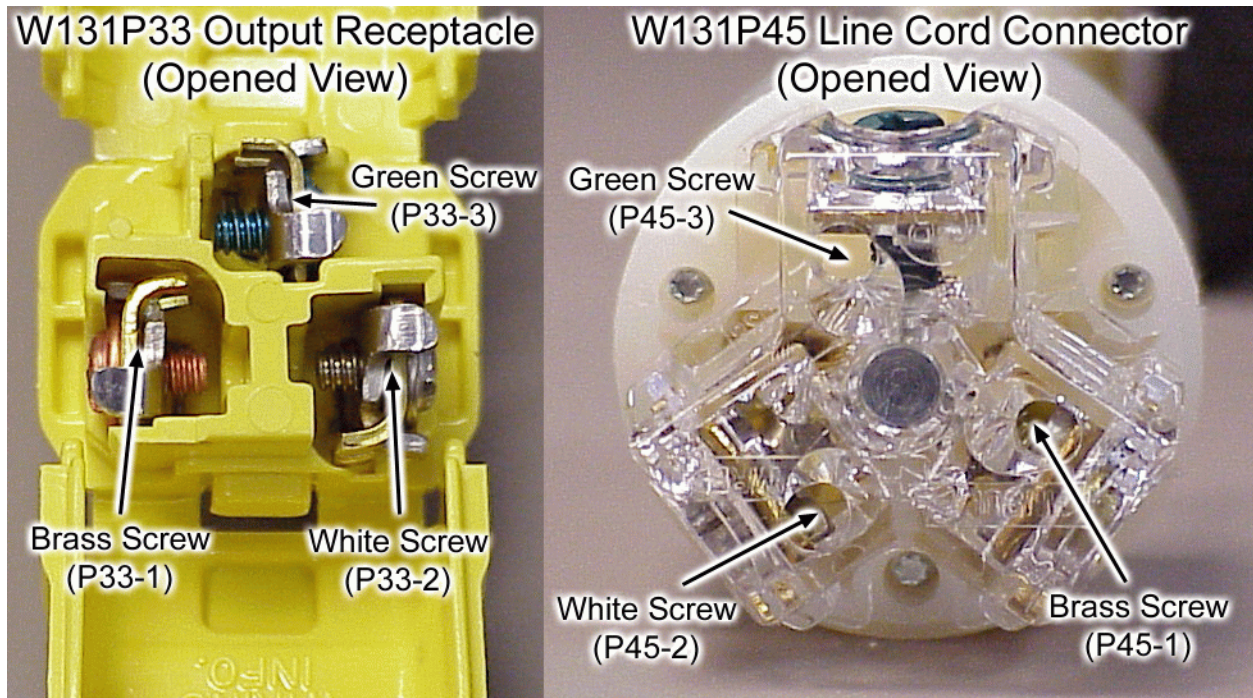

Figure 8 W131P33 and W131P45 Wiring Connections
18. In the wire bundle W131, remove the wire marker and terminator from the wire marked A1A6-BLK and reidentify with the P45-1/P3-1 wire marker. Remove the contact terminations from the wires labeled P33-2/A1A9XK3-6 and P33-1/A1A9XK3-5. Connect these wires and the wires from step 17 to an output receptacle and line cord connector. Refer to figure 8. This output receptacle will be referenced as W131P33 and the line cord connector will be referenced as W131P45.